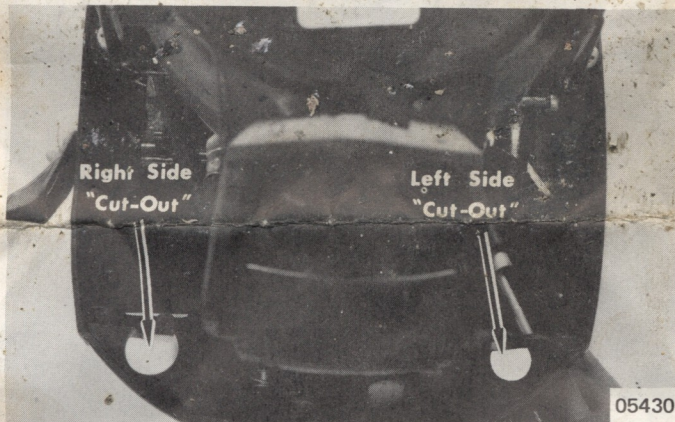

Figure 2. Knock-Out Plate Location, 1970 thru 1973 Models
3. For 1970 thru 1973 models, see Figure 2. Knock out right and left side areas of the bottom cowl as shown.